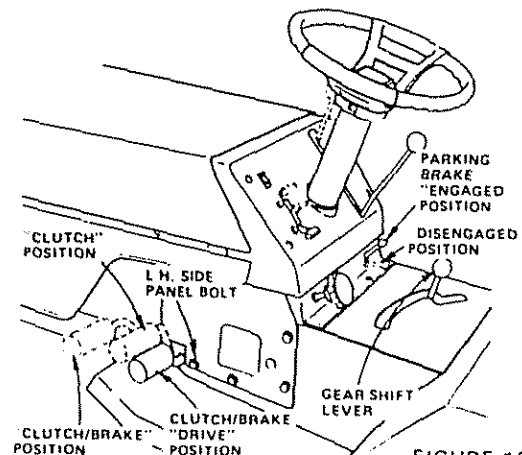

FIGURE 18
- Connect the other end of the cable to the L.H. side panel bolt (Fig. 18) **NOTE: KEEP AWAY FROM GAS TANK AND BATTERY.**
- L.H. Side Panel Bolt (Fig. 18)